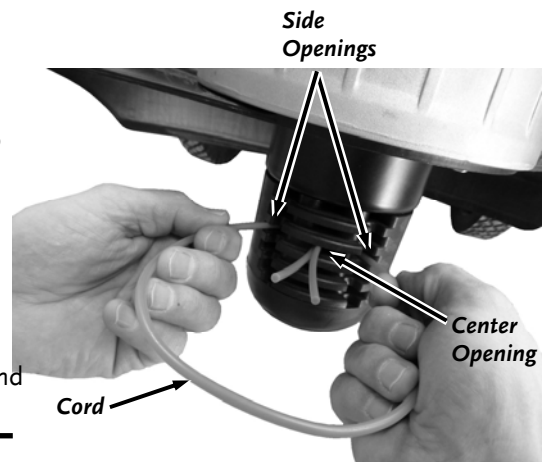

Figure 15
1. Insert the ends of the Cord into the side openings in the Line Plate (**Figure 15**).